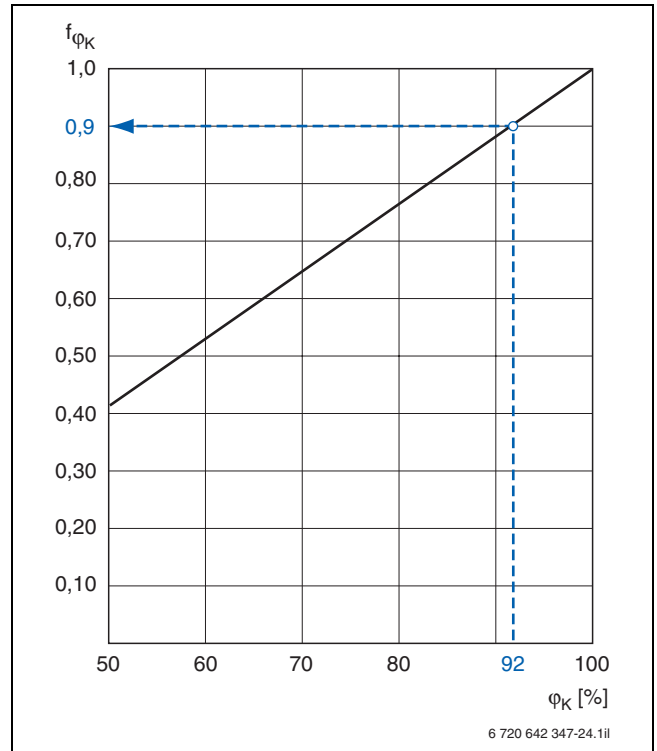

Fig. 28 Conversion factor for calculating the rated output of the condensing heat exchanger, relative to a 30 °C water inlet temperature
- $f_{\varphi K}$ Conversion factor → Fig. 28
- Conversion factors $f_{\varphi K} = 0.9$ (→ Fig. 28)